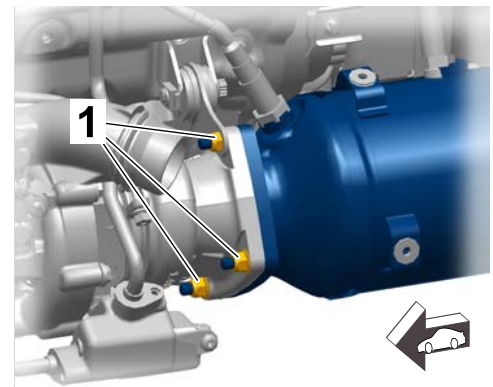

Figure 20
-2- (⇒ *Figure 20*-arrow-).
- 5.10 Fit and tighten the remaining hexagon nuts ⇒ *Figure 20*-1- securing the catalytic converters to the turbocharger.